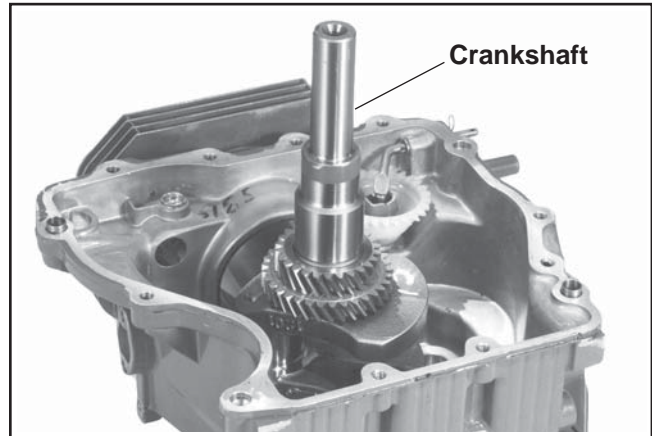

Figure 11-4. Installing Crankshaft.
- Insert the crankshaft through the flywheel end bearing. See Figure 11-4.